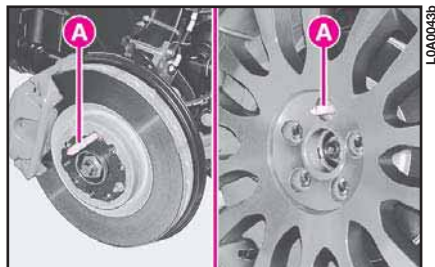

fig. 16
19) On versions with alloy rims, to make the wheel fitting easier, screw the pin **A** (fig. 16), provided in the tool kit, to the hub and then place the wheel and tighten up the four bolts in the free holes. Finally, unscrew pin **A** and screw the last bolt.